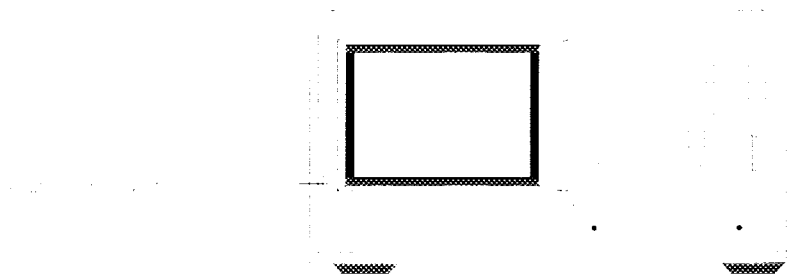

Figure 1-7. Turning on the Instrument
- 1 Press the front-panel LINE key. Refer to Figure 1-7.